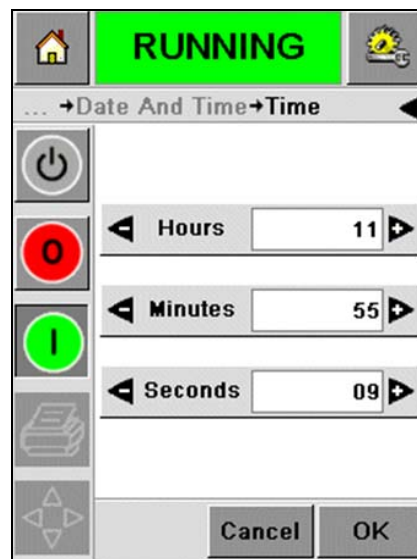

Figure 5-25: Time
- 7 Touch the *Time* icon and the time screen appears (Figure 5-25).